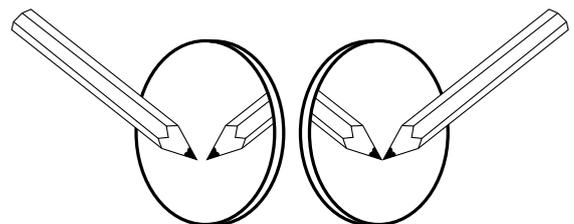

Figure 29: Locating coated side
- When there is no silver side, the identification can be made by holding an object (avoid using metallic or sharp-edged objects) close to the gobo, and checking which side shows a gap between the object and its reflection. The side showing no gap is the coated one (Figure 29).